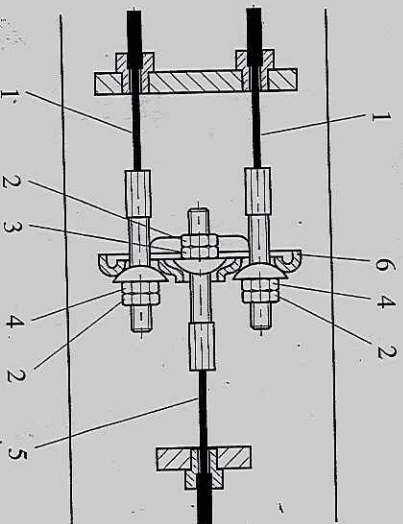
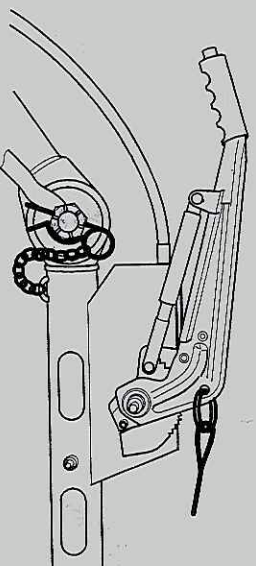

Fig. 5.7 Brake cable arrangement
Fig. 5.8 Hand brake lever downward - brake not operated
Check the position of the equalizer (Fig. 5.7, 6) with the parking brake actuated.
Check all lock nuts (Fig. 5.7, 2).
1. With the towing eye pulled out in the outmost position and the hand brake lever in the downward position (Fig. 5.8), loosen the lock nuts (Fig. 5.7, 2). Turn adjusting nuts and brake cable nuts (Fig. 5.7, 4) clockwise until there is no slack in the brake mechanism.
- The equalizer (Fig. 5.7, 6) must remain perpendicular to main brake cable (Fig. 5.7, 5).
2. Apply the hand brake lever several times and repeat the adjustment. Tighten the nuts with their lock nuts (Fig. 5.7, 2). Remove the jack and the blocks.